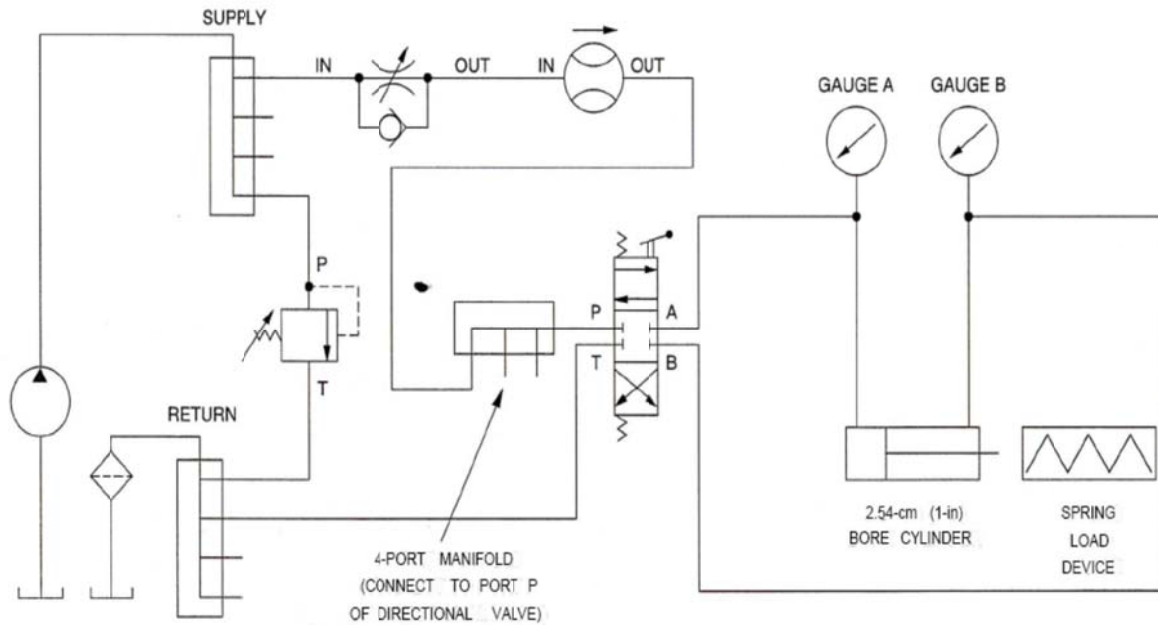

Fig.2 Cylinder in a normal (non regenerative circuit).
- Change your regenerative circuit into a normal (non-regenerative) circuit. To do so, disconnect the rod end of the cylinder from the 4-port manifold installed on port P of the directional valve, then connect the rod end to port B of the directional valve, as Figure 2 shows.
- Change your regenerative circuit into a normal circuit. To do so, disconnect the rod end of the cylinder from the 4-port manifold installed on port P of the directional valve, then connect the rod end to port B of the directional valve, as shown in Figure 2.